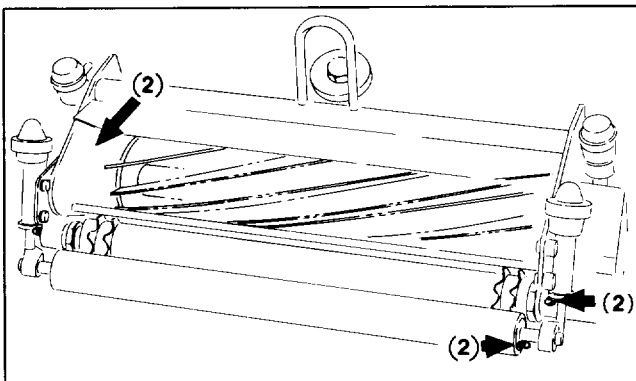

Figure 13
There are nine (9) grease fittings on each cutting unit (Fig. 13, 14), which should be greased at least once every two weeks. Lubricate using a No. 2 multi-purpose lithium base grease. A hand operated grease gun is recommended for best results.